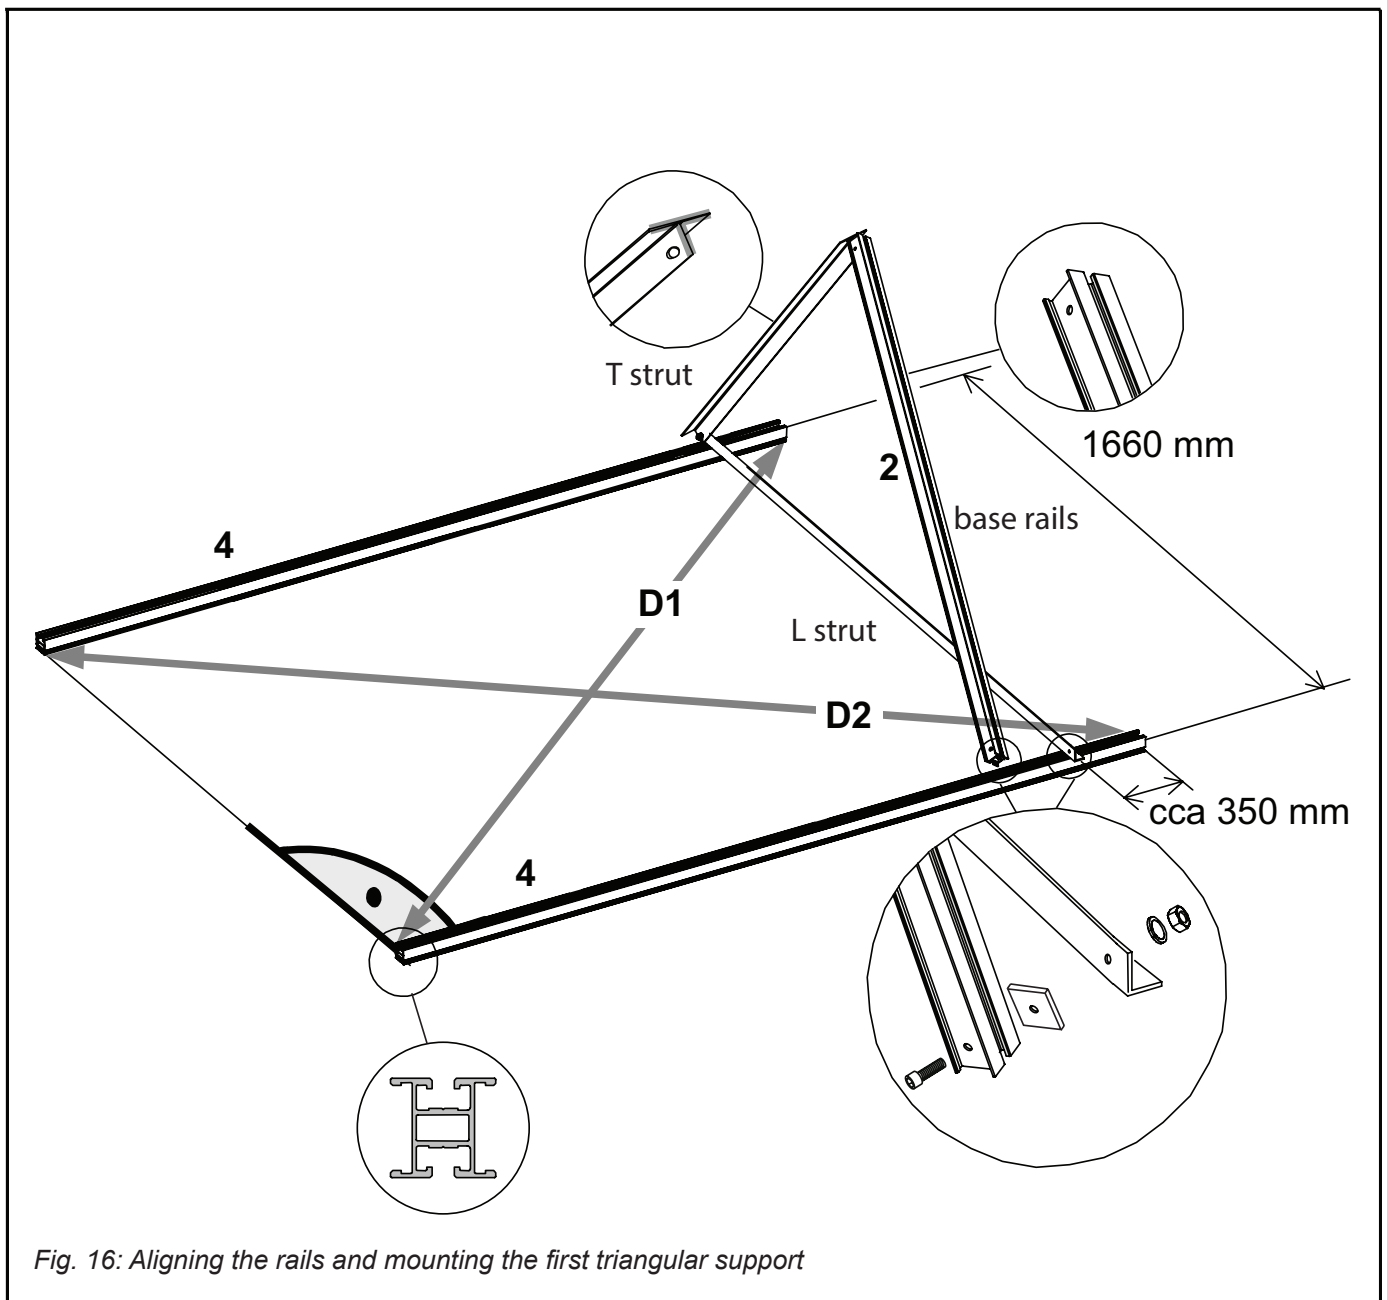

Fig. 16: Aligning the rails and mounting the first triangular support
- The diagonals between the rails shall be of the same length: $D1 = D2$ (Fig. 16)